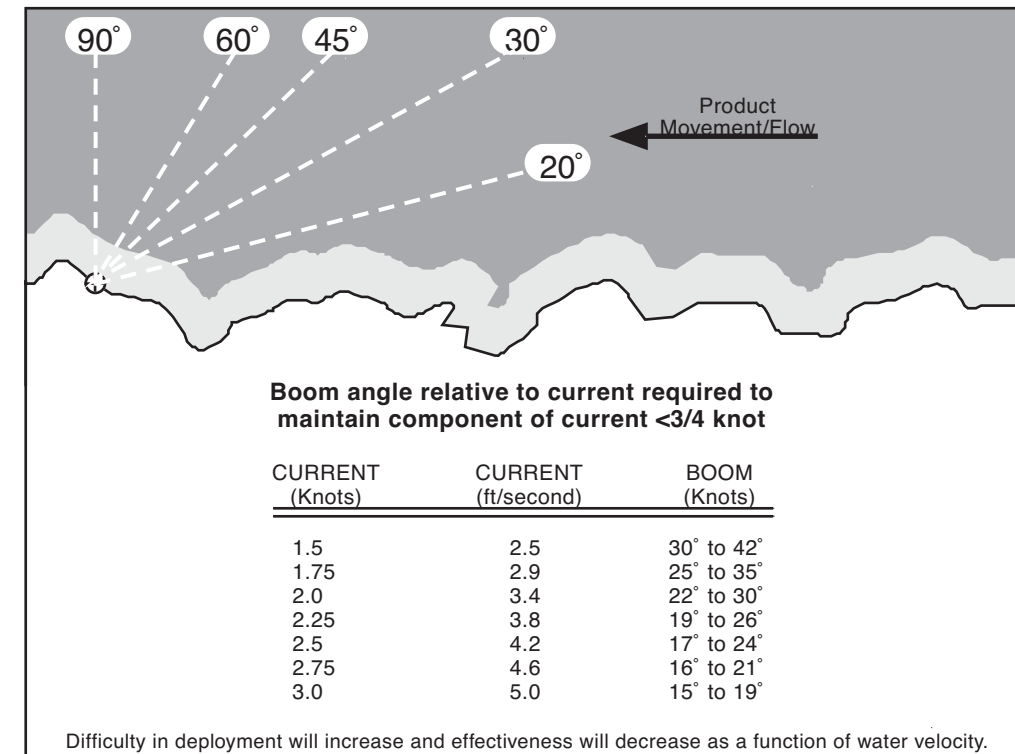

Figure G-2-8. Boom angle relative to current.
- See Figure G-2-8 for anchor system components.